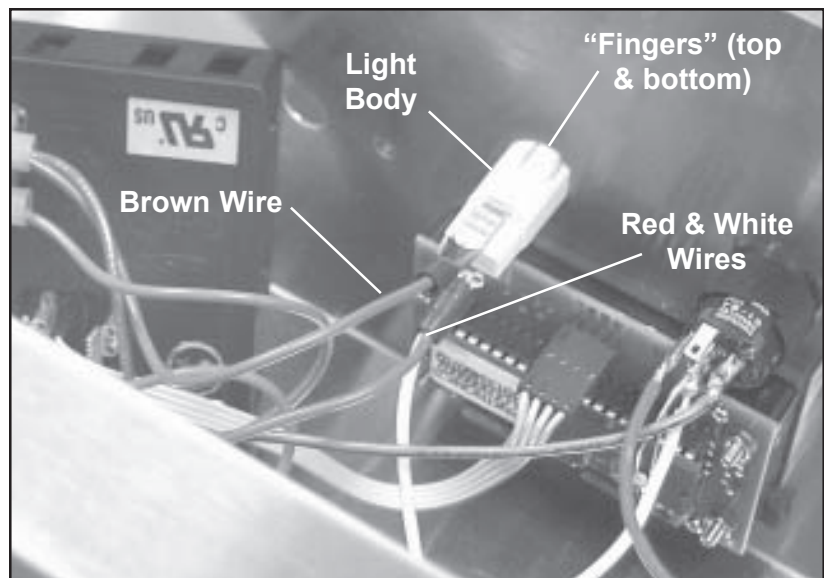

Figure 25. Heat Indicator Light
8. Pull the connector with the brown wire off the indicator light terminal (Figure 25).
1. From the front of the heat controller, press the new indicator light body into its opening into the housing. Press it all the way in until it snaps in place (Figure 25).
2. Push the connector on the brown wire onto the indicator light terminal as shown in Figure 25.